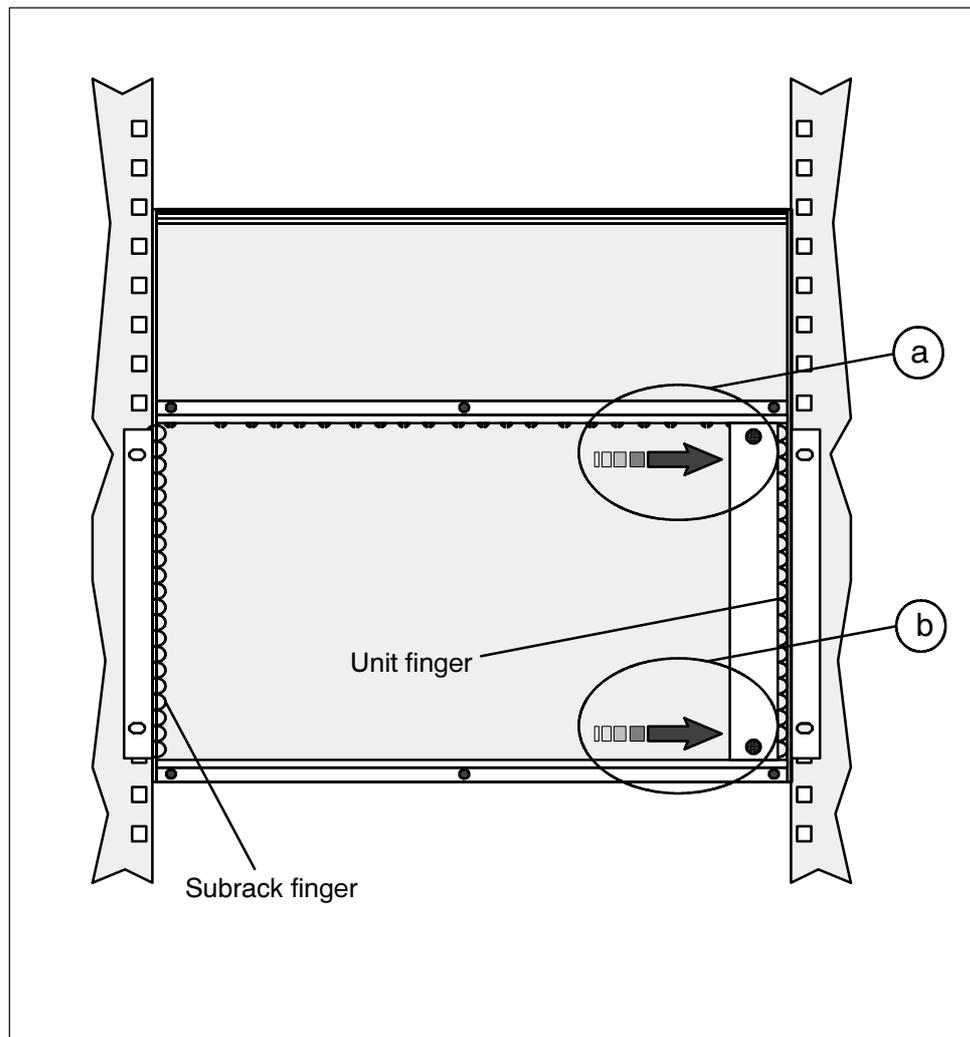
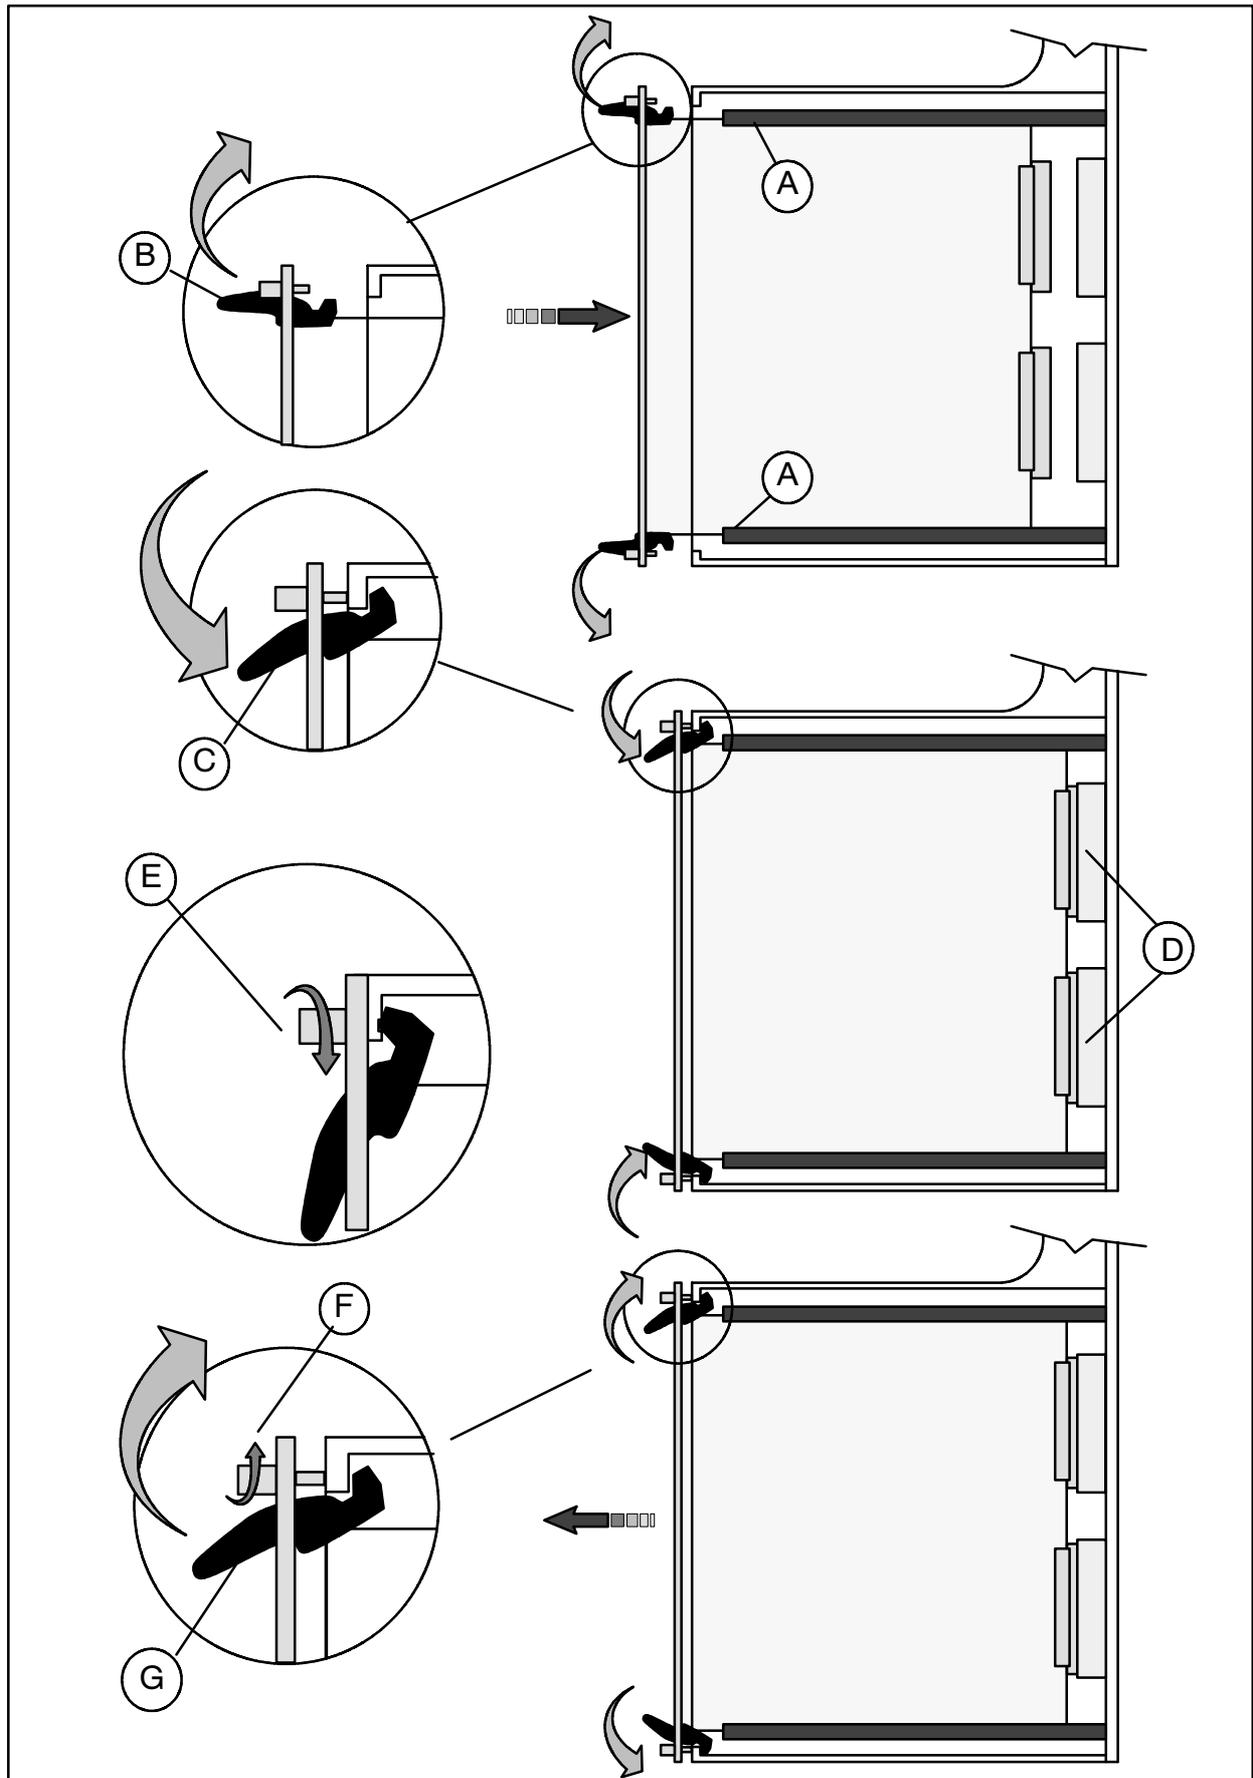

Fig. CK-10 Unit fitting
Fig. CK-11 Inserting the plug-in circuit units
- Unit with front panel and insertion/extraction plastic clasps (Fig. CK-11)
1. Insert the unit or the cover in the first position on the right of the subrack (Fig. CK-10) by sliding it into the plastic guides (Fig. CK-11 A) keeping the two insertion clasps in horizontal position (Fig. CK-11 B).
2. Fully fit the unit pressing the two insertion clasps towards the front panel (Fig. CK-11 C) and make sure that the unit connector is correctly inserted in the subrack connector (Fig. CK-11 D).
3. Press the unit or the cover on the right side of the subrack, with the left hand, in order to compress the finger (Fig. CK-10 a and b) and, at the same time, fix the unit or the cover in position by tightening the two knurled bolts on the front panel with the right hand (Fig. CK-11 E).
6. Before to extract a unit or a cover, make sure that the knurled bolts on the front panels of the units and of the covers of the subrack are tightened. The unit or the cover are extracted by undoing the two knurled bolts (Fig. CK-11 F) and turning the two clasps from the inside towards the outside (Fig. CK-11 G).